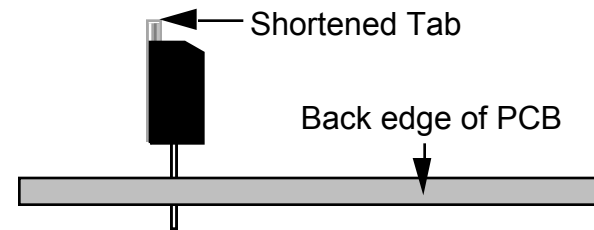

Figure 5
- Q9 is a TO-220 package MOSFET (IRF830 or IRL620) with a metal tab. The tab may have been cut off already. If not, you'll need to trim it. Using heavy wire cutters or tin snips, cut off most of the tab (see Figure 5). This is necessary to prevent the tab from shorting to the shield in later steps. **Do not use flush cutters or other small cutting tools to cut off the tab; this may damage the tool.**